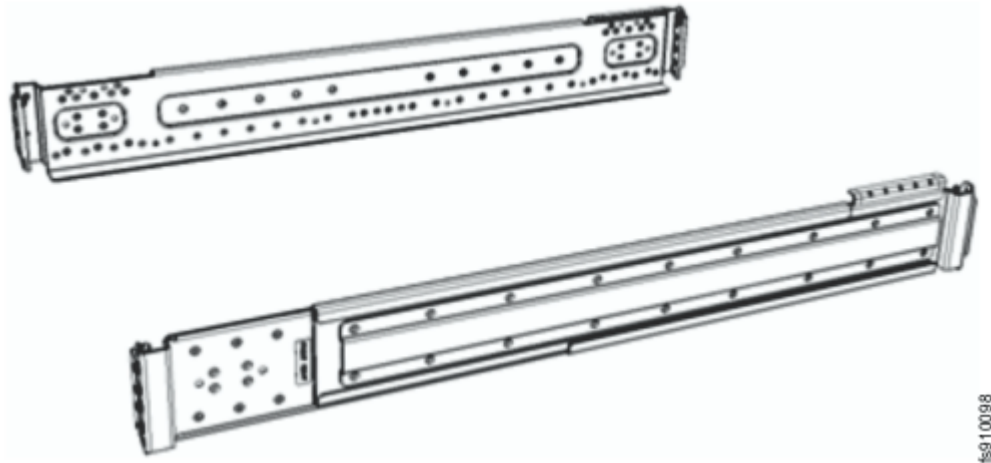

Figure 27. Control enclosure support rails
1. Locate the control enclosure rails, as shown in Figure 27 on page 60.